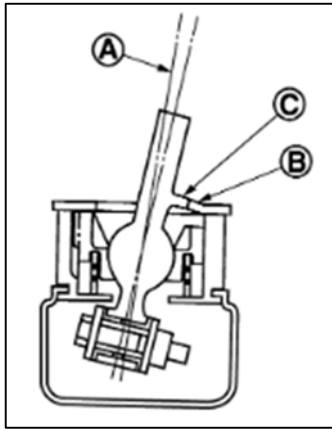

Figure 117
- Move the shifter guide plate (B) against the shift selector tab (C) shown in Figure 117